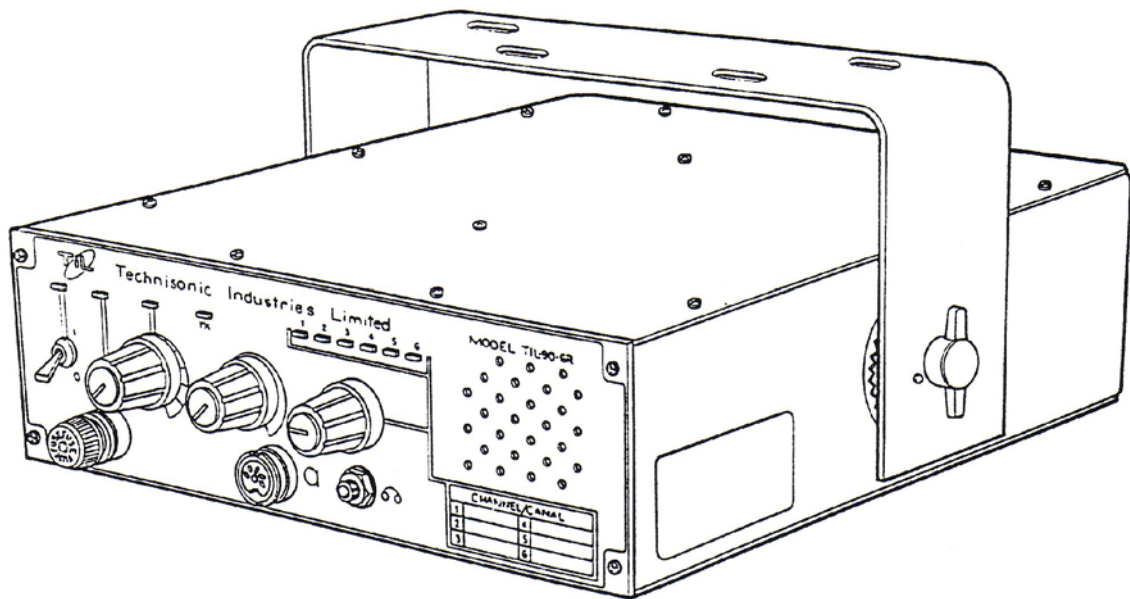

Figure 1-2 Transceiver with Mounting Bracket - General View
- (b) Mounting Bracket, Part Number 913053-1, is a U-shaped aluminum alloy bracket which, together with items of hardware included in Mounting Hardware Kit P/N 869024-1, is used to mount the transceiver under the dashboard of a vehicle. A view of the transceiver with mounting bracket is given in Figure 1-2.